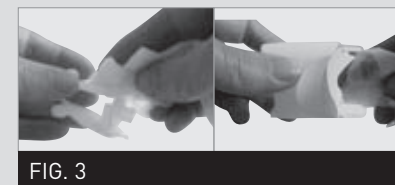

FIG. 3
3. Meticulously clean the care chamber and flap for at least 1 minute with the aboved mentionned wipes. (fig. 3)